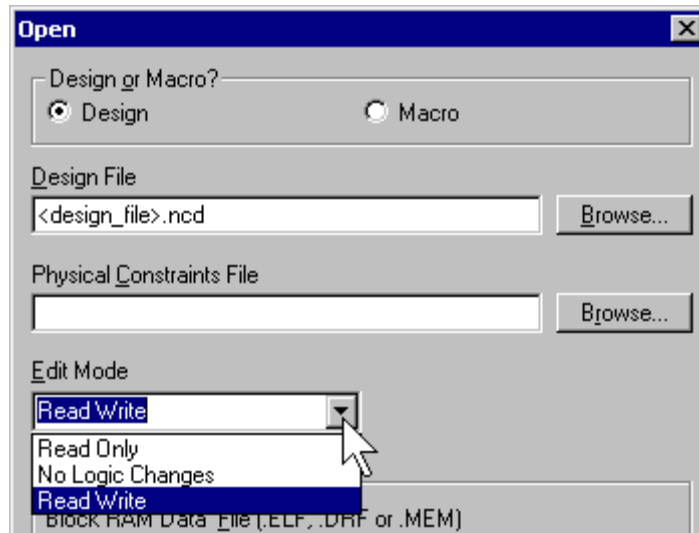

Figure 5: Enable User Editing in FPGA Editor
- Select **File → Open**. Select the \*.ncd file for the completed design. Set the **Edit Mode** to "Read Write" mode as shown in Figure 5.